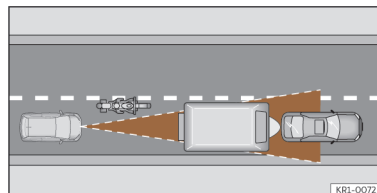

Fig. 140 Motorcyclist ahead out of range of the radar sensor.
- Vehicles that are not aligned while driving or that are outside the sensor's detection area, such as motorcycles >>> **Fig. 140.**